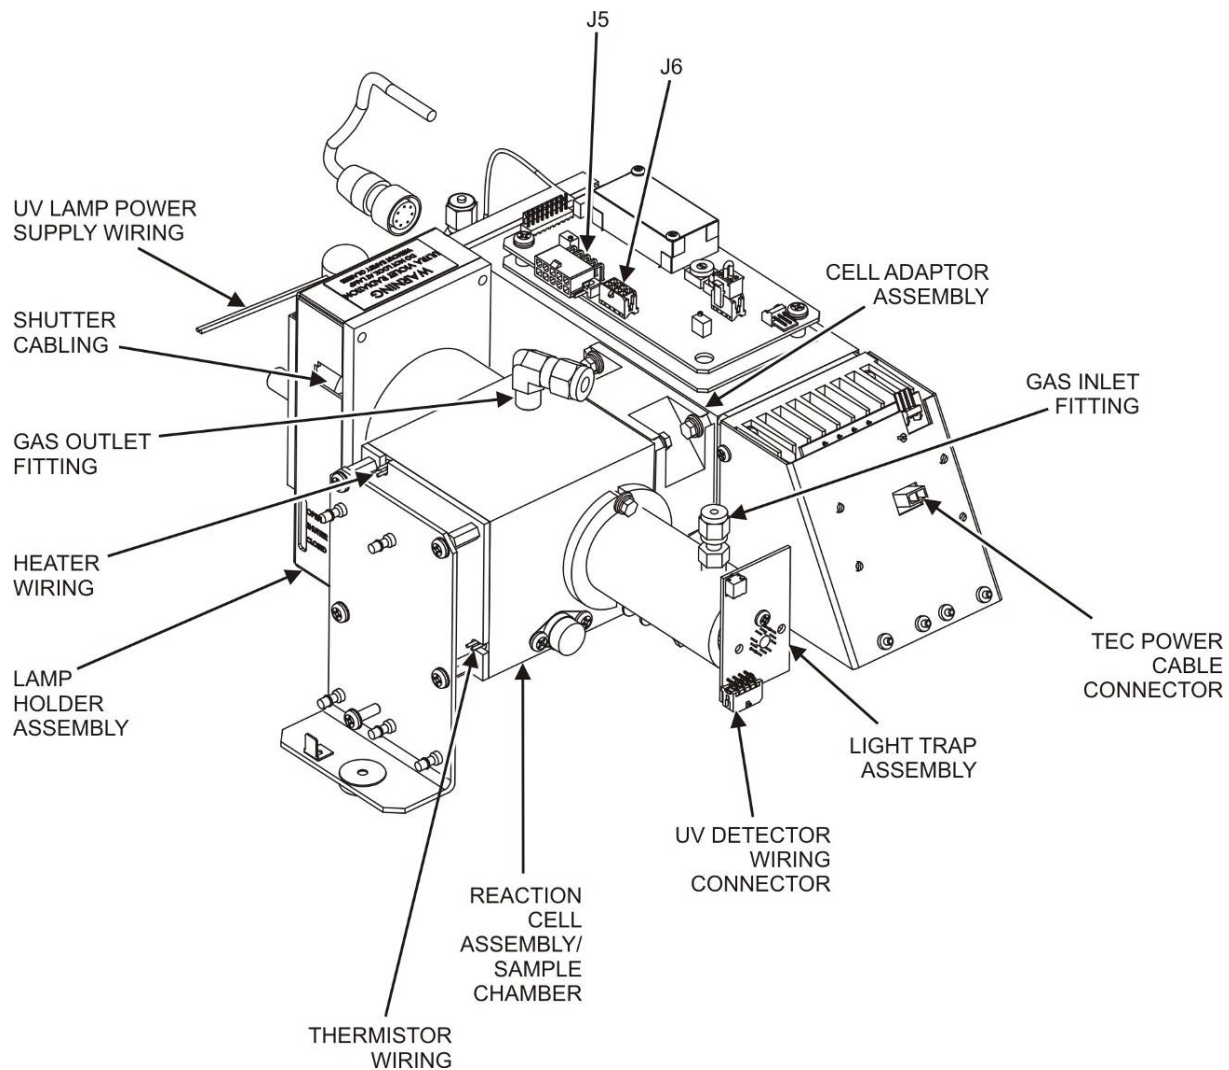

Figure 5-26. Sensor Module Wiring and Pneumatic Fittings
3. Disconnect the sensor module pneumatic lines (refer to Figure 5-26)